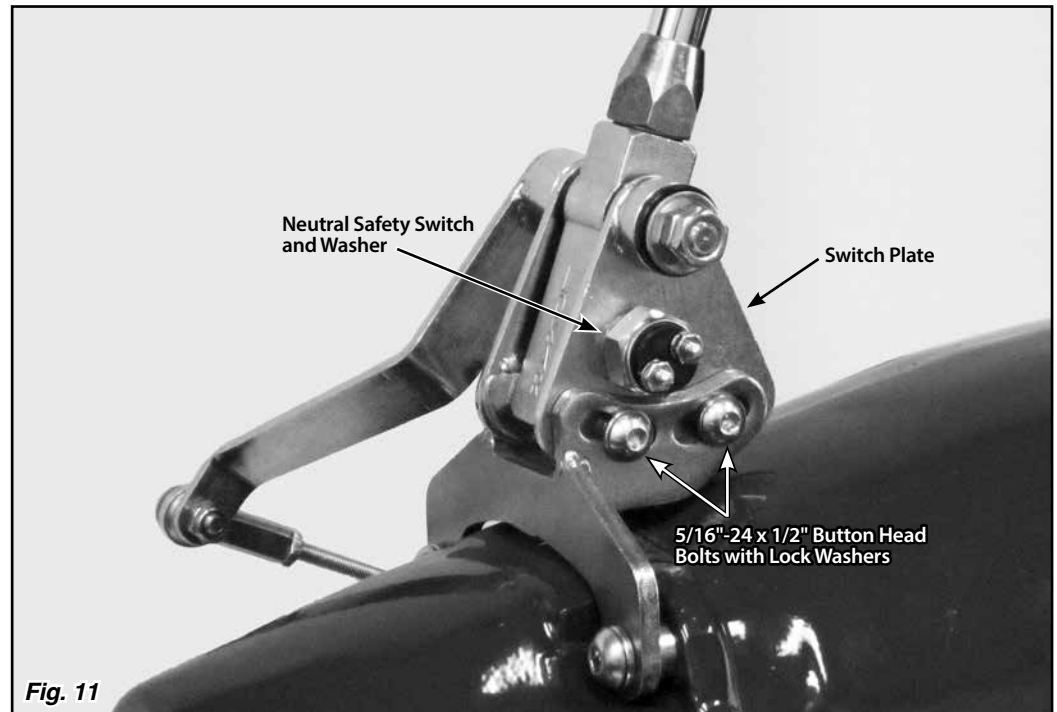

Fig. 11
Step 15: Remove the neutral safety switch and washer (**Fig. 11**) from the right side of the Shifter using a 7/8" wrench or socket.
Step 16: Loosen, but do not remove, the two 5/16"-24 x 1/2" button head bolts that connect the right side welded banana bracket to the switch plate (the bolts are in curved, slotted holes). **Fig. 11**